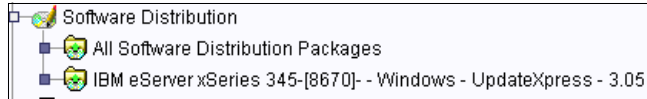

Figure 7-16 Imported firmware for x345 from UX v3.05a CD
14. Select the Software Distribution task, and expand the tree to see the new images. See Figure 7-16 on page 263 for details.